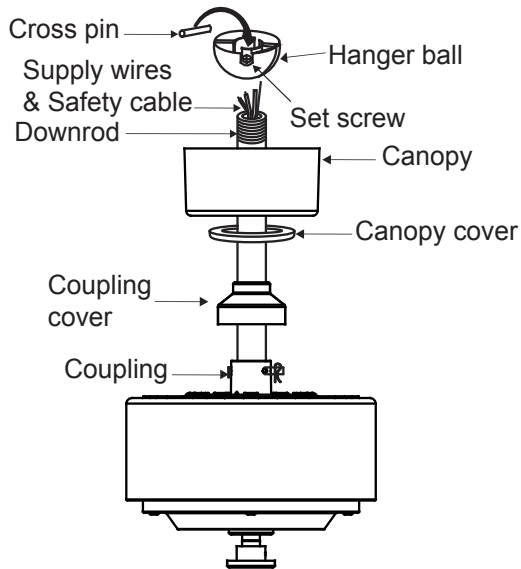

Fig. 10
**Step 9.** Slip the coupling cover, canopy cover and canopy onto the downrod. (Fig. 10)
Thread the hanger ball onto the downrod, insert the cross pin through the downrod and tighten. Now tighten the set screw. (Fig. 10)